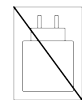

Figure 1
- 2 Plug the other end of the USB cable into a USB port on your computer or into a USB-C 5V wall charger (not included, see Figure 1).